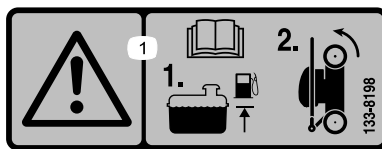

Figure 31
1. Ensure that the level of fuel in the fuel tank is no higher than what is recommended by the engine manufacturer; refer to the engine manufacturer's decal on the engine (Figure 31).